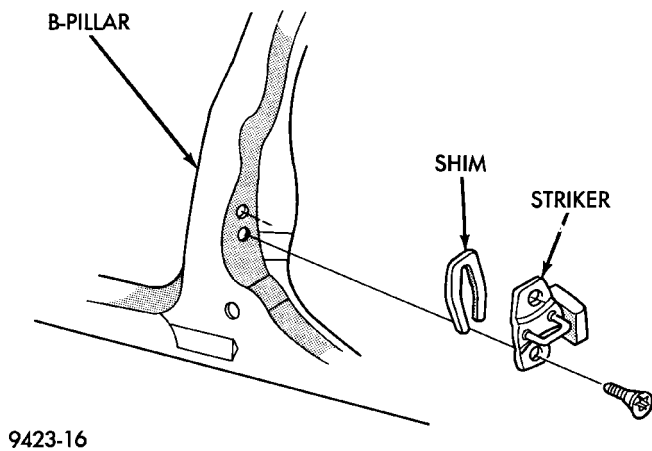

Fig. 37 Front Door Latch Striker
- (1) Mark outline of door latch striker on B-pillar to aid installation.
- (2) Remove screws holding door latch striker to B-pillar (Fig. 37).
- (3) Separate door latch striker from vehicle.